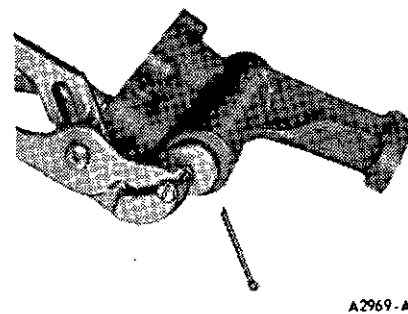

FIG. 66 Removing Oil Pump Relief Valve Plug
3. Remove the cotter pin that secures the relief valve plug in the oil pump housing. To remove the plug, drill a small hole and insert a self-tapping screw in the relief valve plug. Use pliers to remove plug from oil pump housing (Figure 66). Use care to prevent the loss of the relief valve spring.